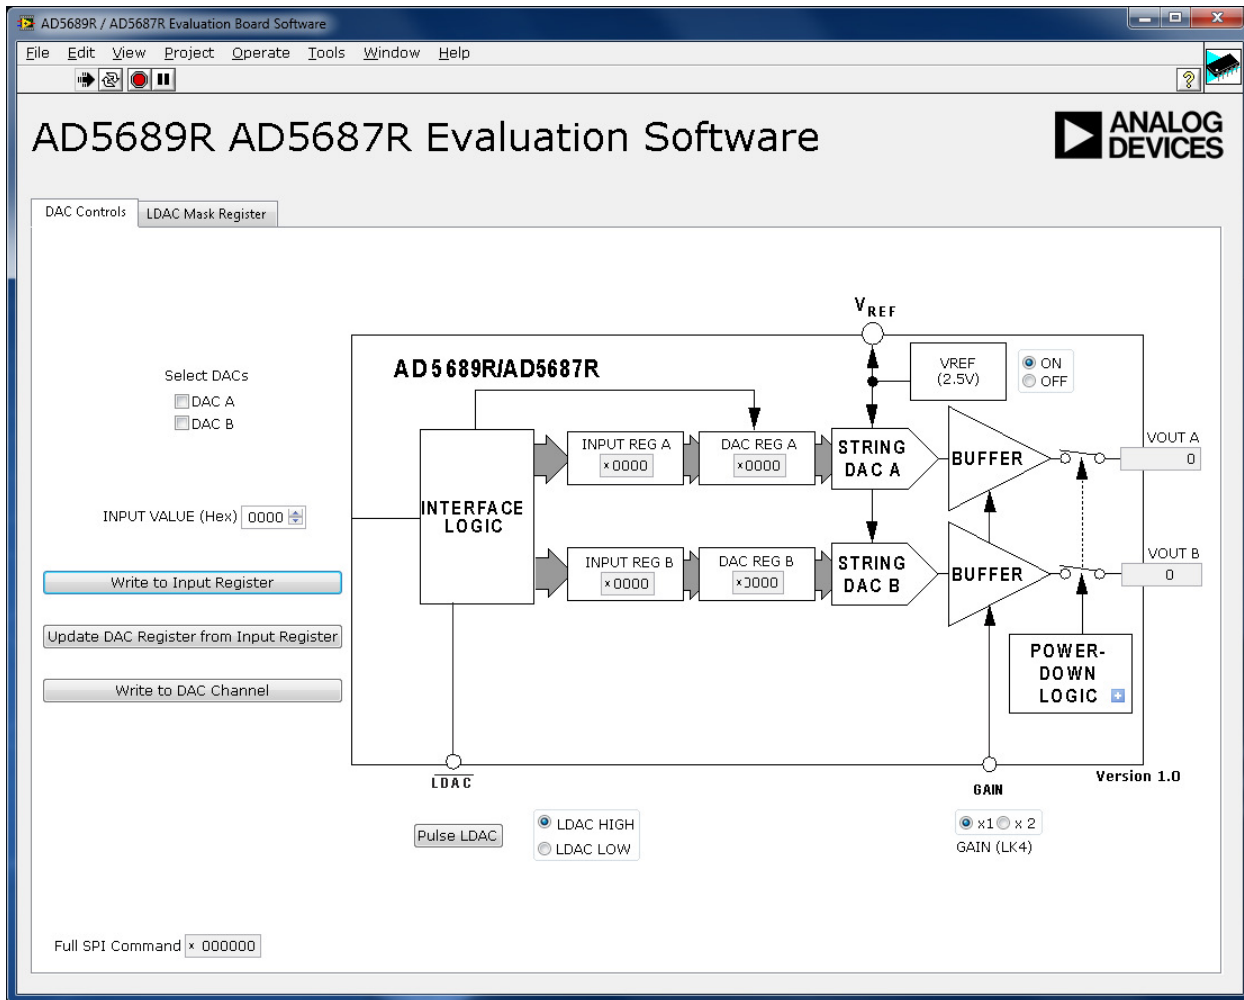

Figure 5. AD568xR Evaluation Board Main Window
5. The main window of the AD5689R/87R evaluation software then opens, as shown in Figure 5.
The AD568xR main window opens, as shown in Figure 5. The data programmed into the 32 bit input shift register is displayed. You can select the command bits, the address bits and the data bits by clicking the appropriate button under each area.